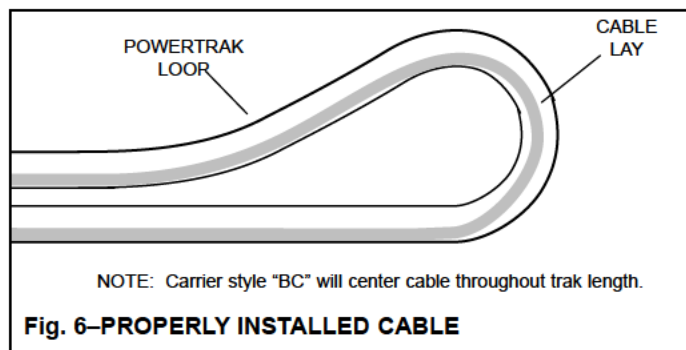

Fig. 6—PROPERLY INSTALLED CABLE
STEP 11: Adjust tension of cables and hoses in trak. (See Figs. 6 & 7). Too